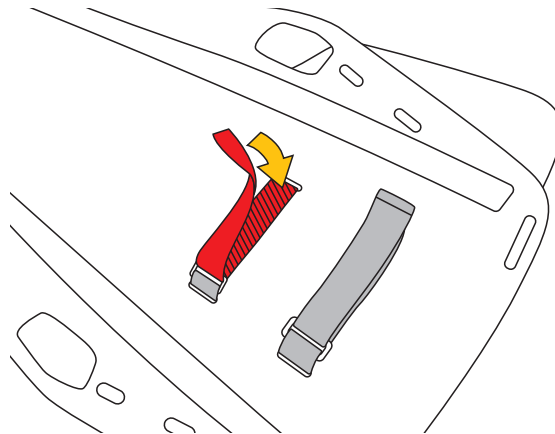

Fig.6
b) Attach the head immobiliser by pulling and overlapping the Velcro straps on the underside of the spinal board (fig. 6).